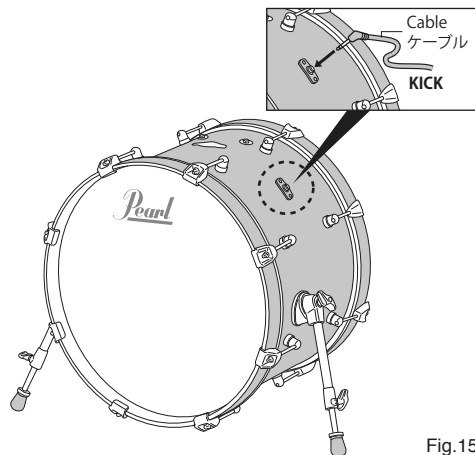

Fig.15
7. Connect the Bass Drum to the Sound Module by using the cable labeled as **KICK**. Insert the cable-end into the jack located on the side of the drum as shown (Fig.15).
ケーブル **KICK** をジャックに接続します (Fig.15)。